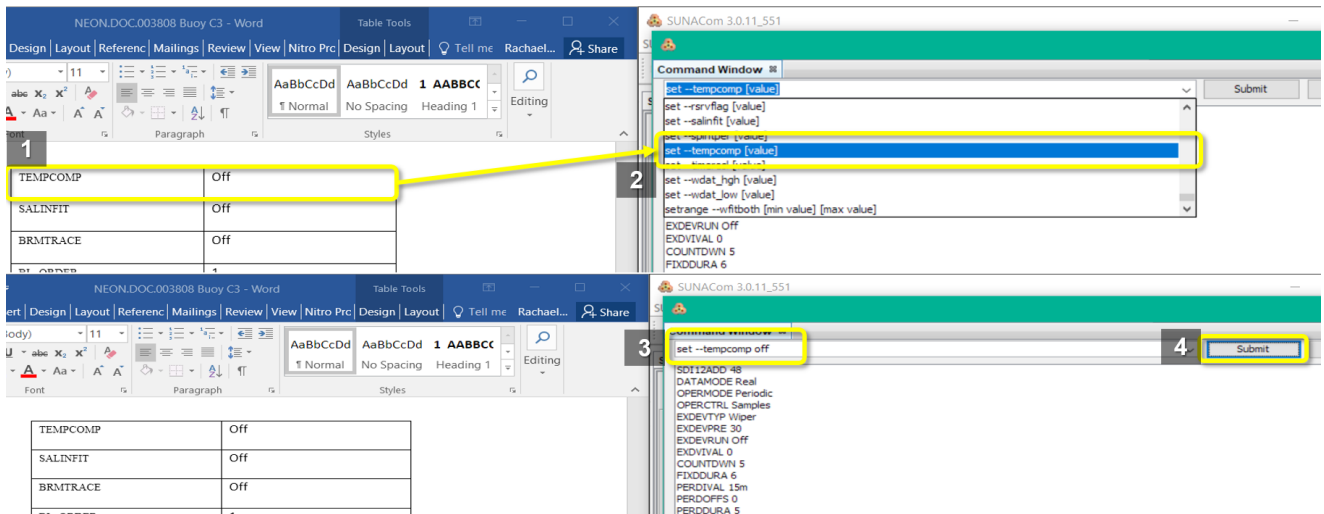

Figure 57. Change "tempcomp [value]" to "tempcomp off" Example
- a. For example, if **"TEMPCOMP"** does not match the C3, select the dropdown in the **Command Window** and find the **Parameter Code** (see Figure 57).